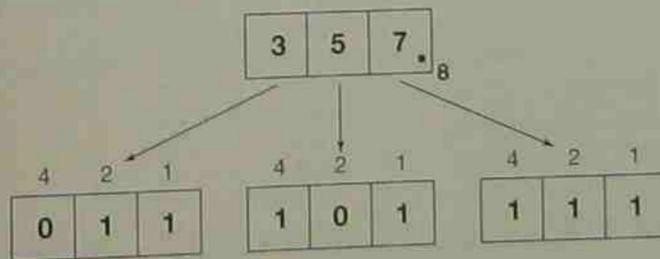

Figure 6-31 Conversion of Octal Number to Binary
Since the largest single number that can be expressed using the octal numbering system is seven (7), each octal digit can be represented by using only three (3) binary bits (base 2). Figure 6-31 illustrates how to convert an octal number to a binary number. The figure shows three sets of binary bits and the place value of each bit. For the least significant digit (7), a one (1) must be placed in the 1s place, the 2s place, and the 4s place to equal 7. The middle digit (5), a 1, is placed in the 1s place and the 4s place, while a 0 is placed in the 2s place. This combination equals 5. For the most significant digit (3), a 1 is placed in the 1s place and the 2s place, and a 0 is placed in the 4s place. This combination adds up to 3.